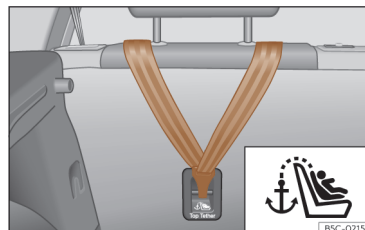
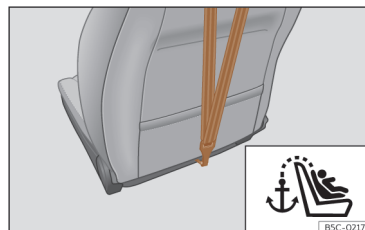

Fig. 46 Rear part of the rear seats: Top Tether strap anchor.
Fig. 47 Rear of front passenger seat backrest: Top Tether strap anchor.
- Slide the strap and secure it properly with the anchor on the rear seat backrest >>> Fig. 46 , >>> Fig. 47.